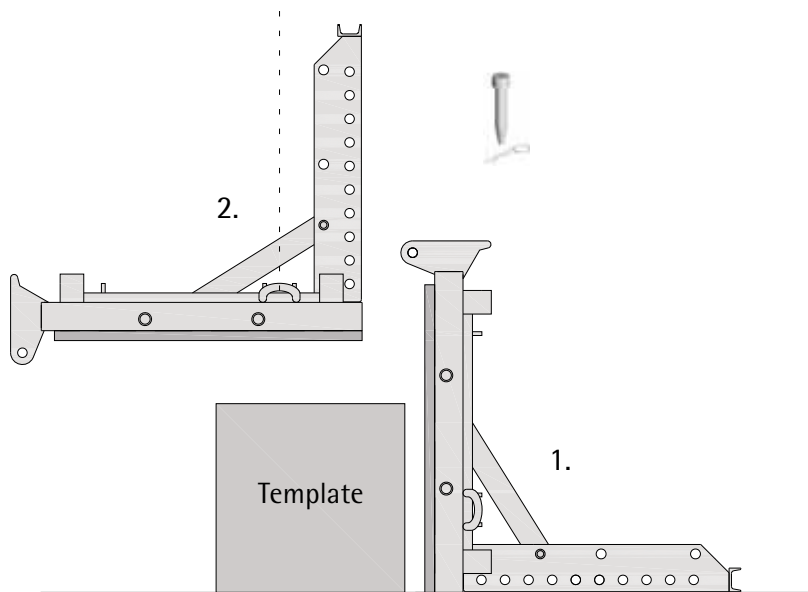

Fig. 13
1. Pre-mount second unit (without adjustable props and working platform, p. 11, Fig. 13).